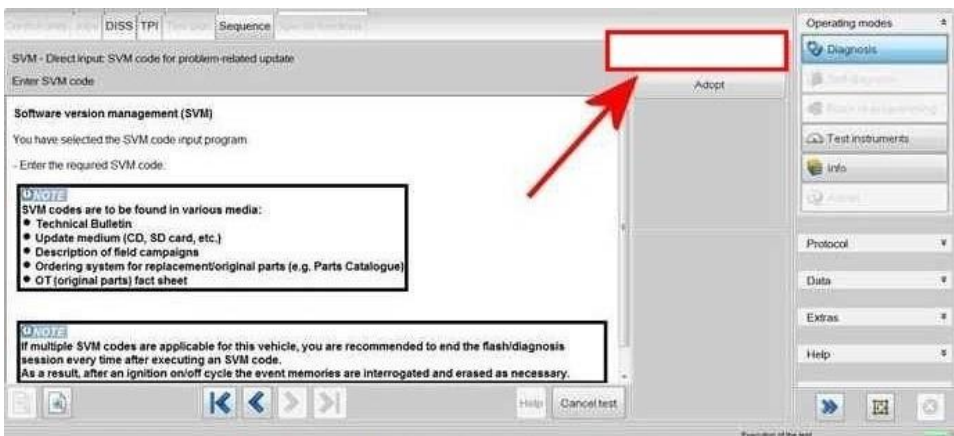

Figure 18
- On the next screen enter the SVM code **371046BLINDZDC01** - Select Adopt (Figure 18)